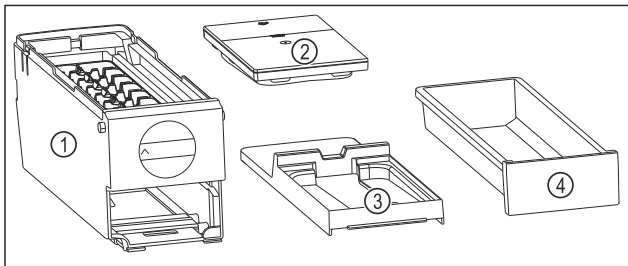

Fig. 108 Components of the EasyTwist-Ice
- ▷ EasyTwist-Ice is dismantled into four parts. (see Fig. 108)
- ▶ Only dismantle the EasyTwist-Ice into the components shown. (see Fig. 108)
- ▶ Clean the EasyTwist-Ice body Fig. 108 (1) as a whole.